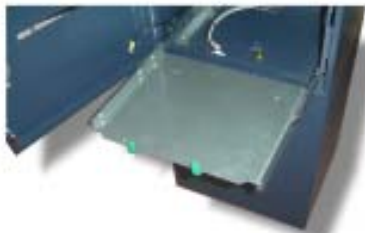

Figure 2. Dispenser mounting tray fully extended.
2. Slide the dispenser mounting tray to its fully extended position (Figure 2).